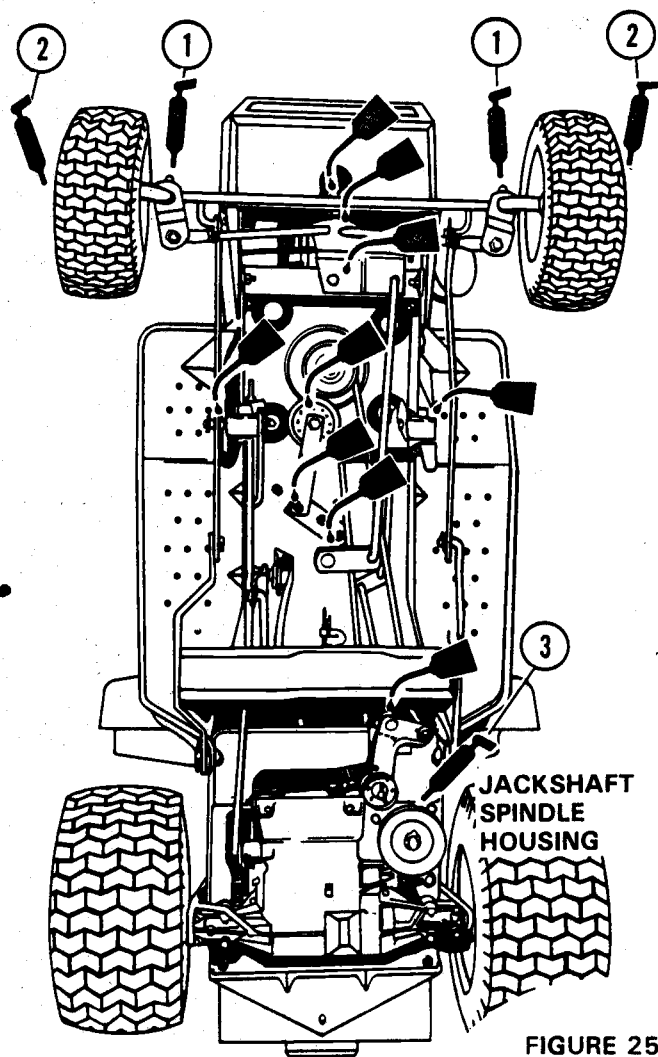

FIGURE 25
1. Right and Left Steering King Pins — Figure 25.
2. Right and Left Front Wheels — Figure 25.
3. Jackshaft Spindle Housing — Figures 25 & 27.
POINTS TO OIL — FIGURES 25, 26 & 27
1. Periodically oil the lift point pivots, front axle pivot, control linkage pivots and the shaft pivots to insure long life and smooth operation of the parts. See Figures 25 and 27.